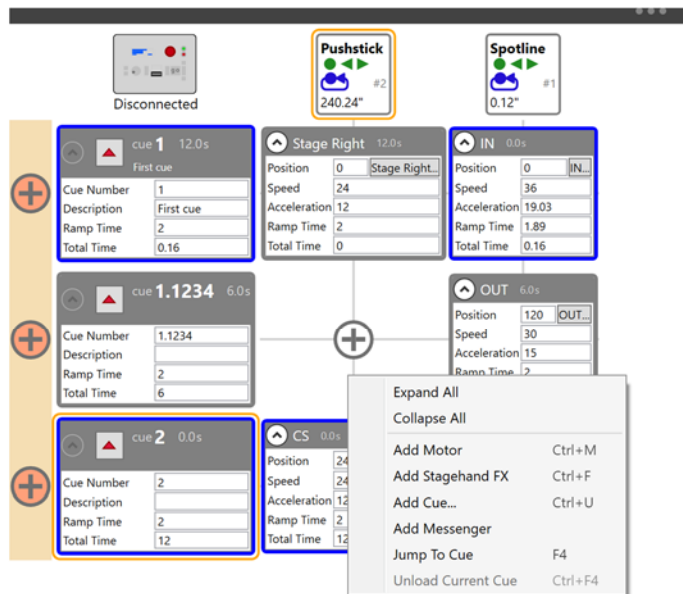

Figure 74
2. Right-click on the **Cue Grid**, or long press on the **motor header** and select **Add Motor**, **Add Stagehand FX** or **Add Messenger** from the pop-up menu (Figure 74).